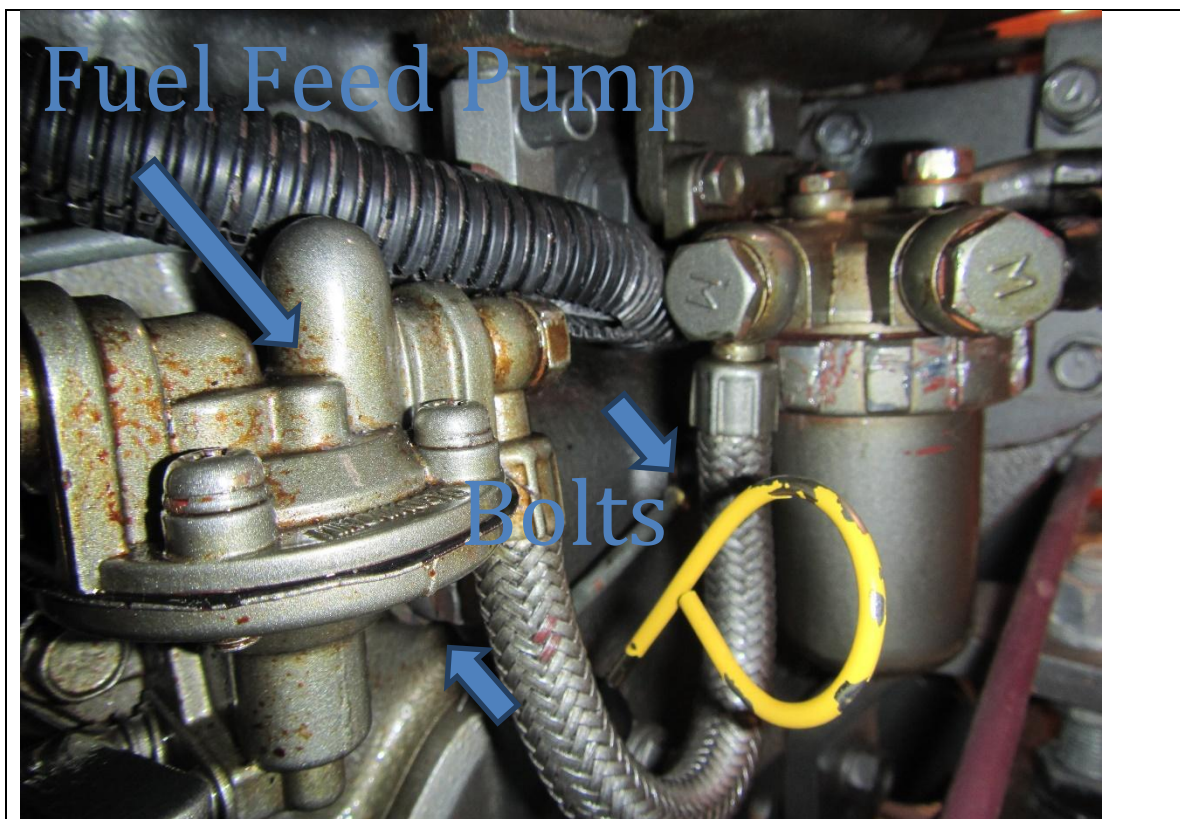

Figure 3 Starboard side banjo bolts for External Oil Pipe
- 2) Unbolt the fuel filter bracket from the engine, you will need to do this in order to get to the banjo bolt that is behind this filter. -You do not need to disconnect any fuel lines. (See Figure 3).